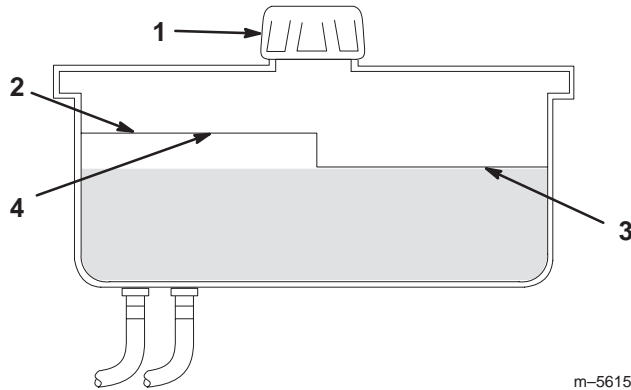

Figure 43
2. Clean the area around the filler neck of the hydraulic tank (Fig. 43).
3. Remove the cap from the filler neck. Look inside to check if there is fluid in the reservoir (Fig. 43).
Note: The fluid level should be to the top of the *hot* level of the baffle, when the fluid is warm (Fig. 43).